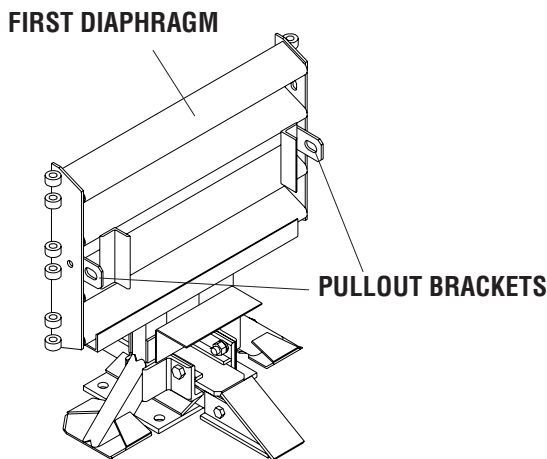

Figure 80
6. Attach chain to **Pullout Brackets** on first Diaphragm (see Figure 80). Attach both ends of chain to a heavy vehicle (such as a 1 ton pickup).